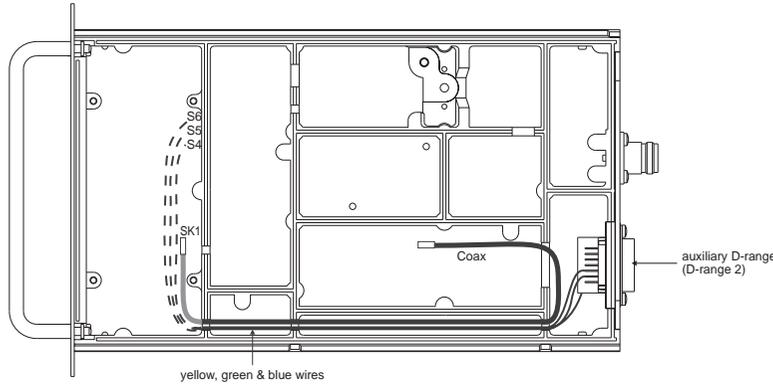

Figure 3 Cable Routing
Route the wires and coaxial cable via the loom channel cast into the chassis to the synthesiser and D-range compartments as shown in Figure 3. Depending on the chassis type, there will be either holes in the chassis through which to pass the wires, or slots in the top of the chassis walls. If the wires are passed through slots, use cable clips to hold them in place.
- Connect the coaxial cable provided between SK1 on the T800-30-0000 PCB and =SK710 on the T800 transmitter PCB, as shown in Figure 3.